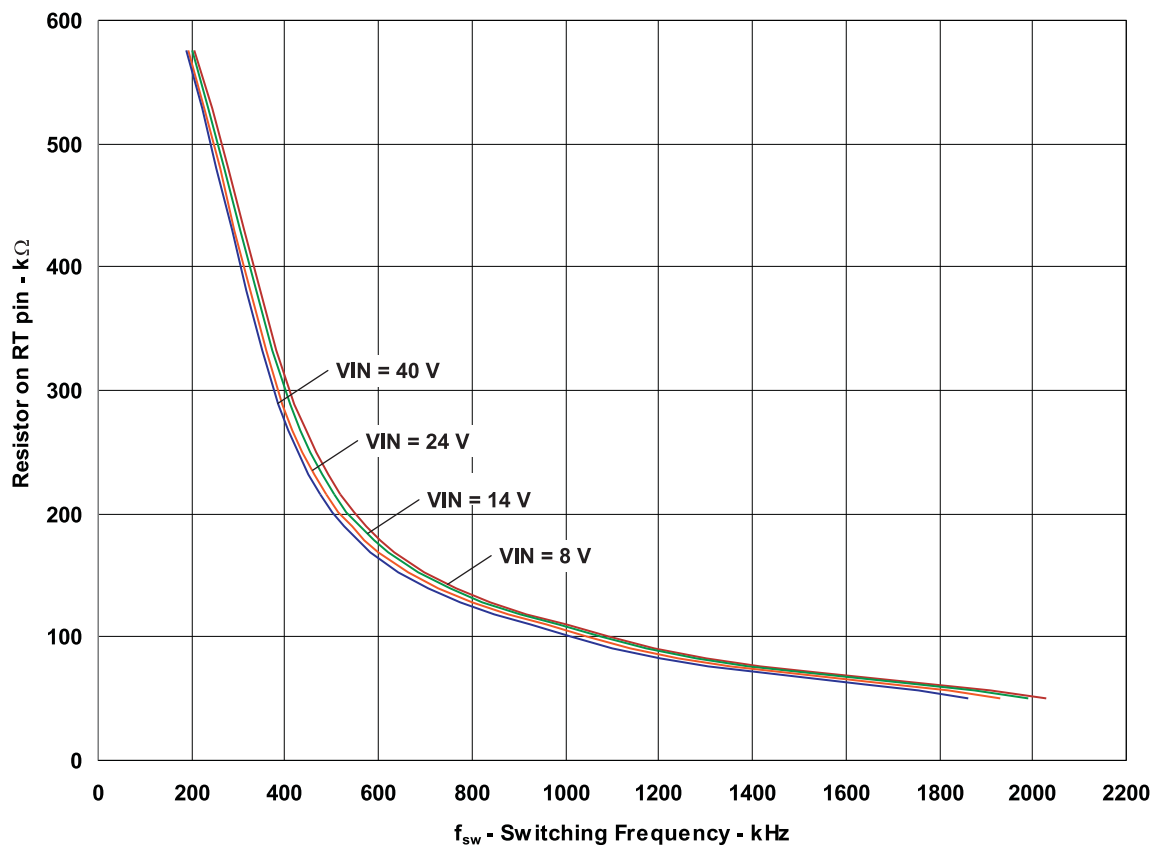

Figure 23. Switching Frequency vs Resistor Value
The oscillator frequency can be set by connecting an external resistor (R8 in Figure 4) to RT pin (pin 6) . Figure 23 shows the relation between the resistor value (RT) and switching frequency (f_{sw}). The switching frequency can be set in the range 200 kHz to 2200 kHz. In addition, the switching frequency can be imposed externally by a clock signal (f_{ext}) at the SYNC pin.
Knowing the switching frequency, the value of resistor to be connected at RT pin can be calculated using the graph shown in Figure 23.